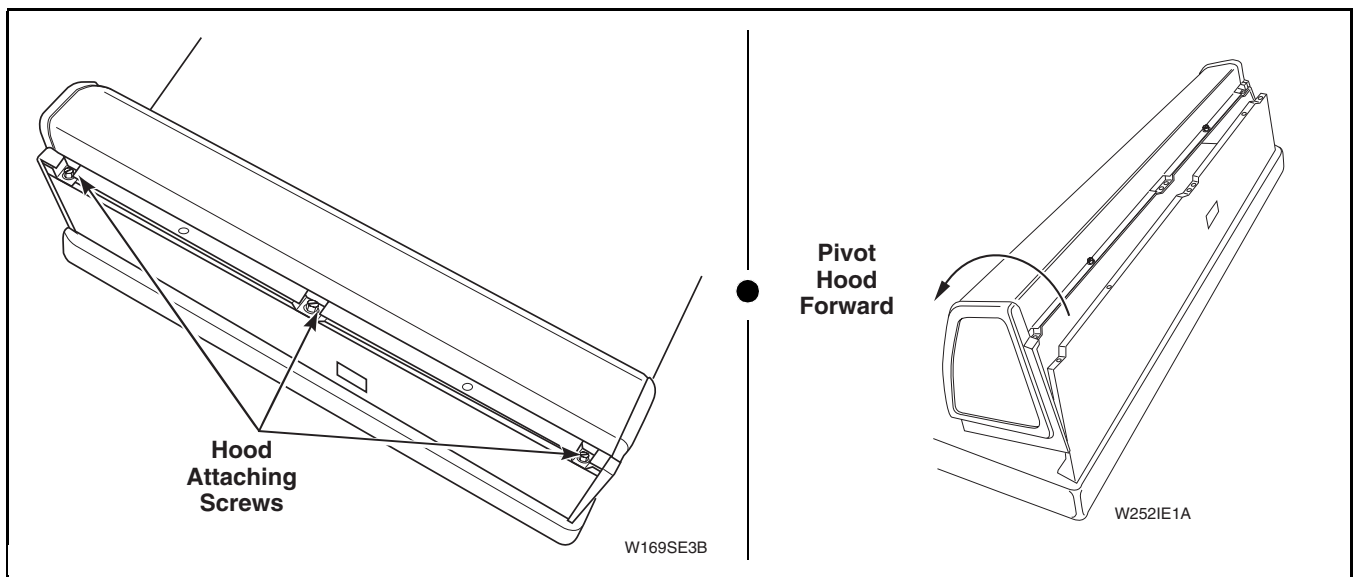

Figure 7
- Remove three screws holding rear of hood assembly to control hood rear panel. Refer to *Figure 7*.
- Pivot hood assembly forward on cabinet top. Refer to *Figure 7*.
- b. Remove three screws holding rear of hood assembly to control hood rear panel. Refer to *Figure 7*.
- c. Pivot hood assembly forward on cabinet top. Refer to *Figure 7*.
- a. Remove three screws holding rear of hood assembly to control hood rear panel. Refer to *Figure 7*.
- b. Pivot hood assembly forward on cabinet top. Refer to *Figure 7*.